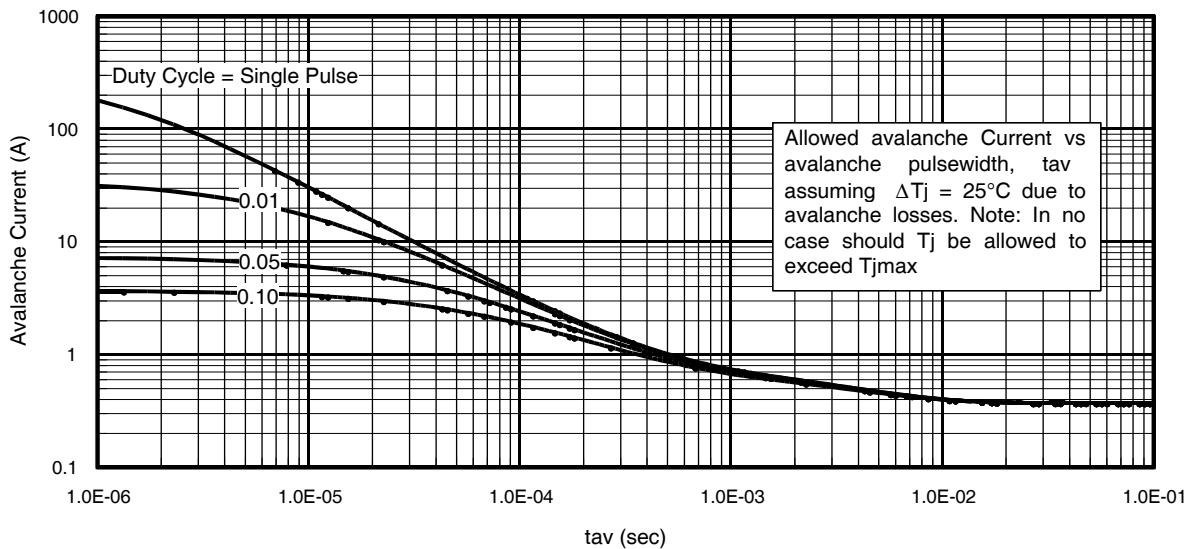

Fig 15. Typical Avalanche Current Vs.Pulsewidth
#### Notes on Repetitive Avalanche Curves , Figures 15, 16: (For further info, see AN-1005 at [www.irf.com](http://www.irf.com))
7.  $\Delta T$  = Allowable rise in junction temperature, not to exceed  $T_{jmax}$  (assumed as  $25^\circ\text{C}$  in Figure 15, 16).